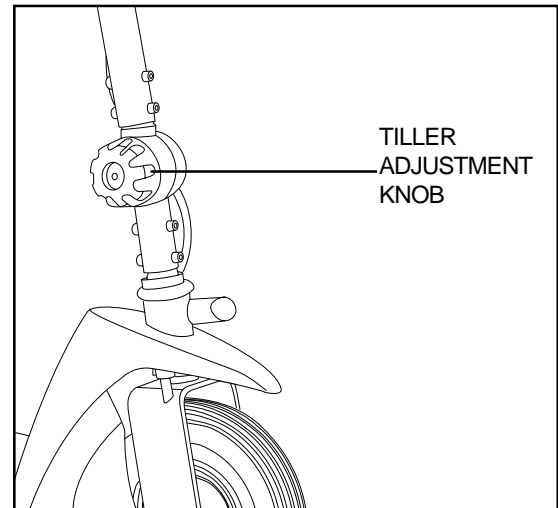

Figure 13. Tiller Adjustment
1. Turn the tiller adjustment knob counterclockwise to loosen the tiller. See figure 13.